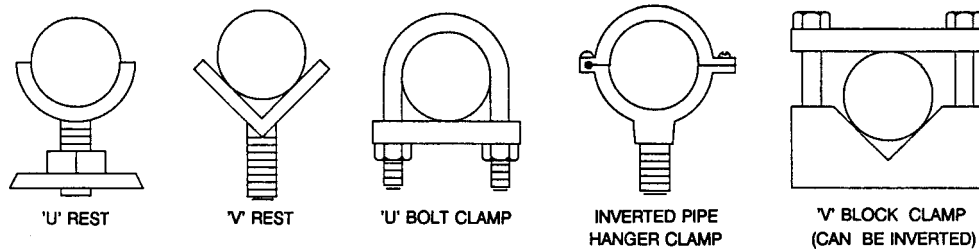

Figure 7. Recommended Pipeline Supports
3. Provide upstream and downstream flowline supports. Supports can extend from floor, ceiling, or wall, as convenient, but should not be firmly secured to the pipeline at this time. Refer to Figure 7 for types of recommended pipeline supports. Note that “rest type” supports should not be used for flowtube sanitary connection types N and P.